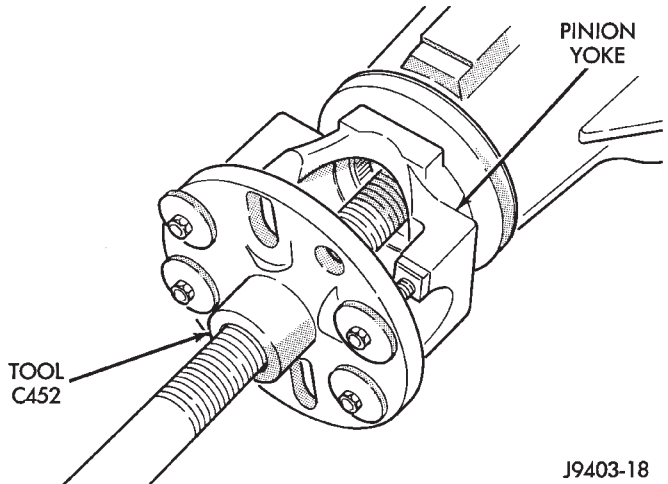
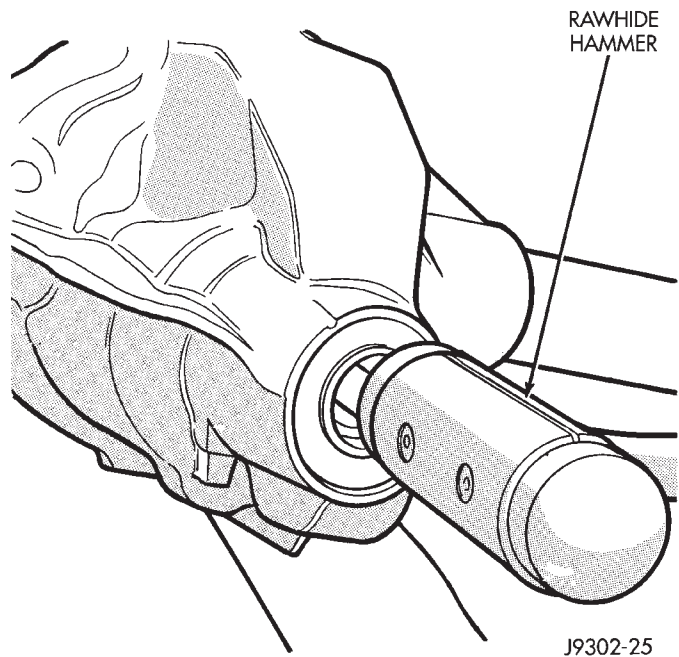

Fig. 26 Pinion Yoke Removal
Fig. 27 Remove Pinion Gear
- (1) Remove differential from the axle housing.
- (2) Mark pinion yoke and propeller shaft for installation alignment.
- (3) Disconnect propeller shaft from pinion yoke. Using suitable wire, tie propeller shaft to underbody.
- (4) Using Yoke Holder 6719 to hold yoke and remove the pinion yoke nut and washer.
- (5) Using Remover C-452, remove the pinion yoke from pinion shaft (Fig. 26).
- (6) Partially install pinion nut onto pinion to protect the threads.
- (7) Remove the pinion gear from housing (Fig. 27). Catch the pinion with your hand to prevent it from falling and being damaged.